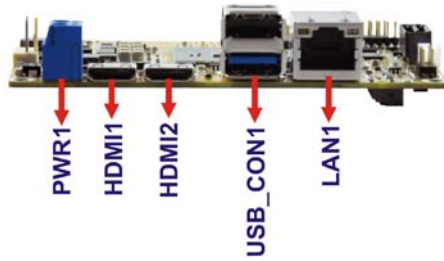

Figure 3-21: External Peripheral Interface Connector
Figure 3-21 shows the HYPER-BW-E8 external peripheral interface connector (EPIC) panel. The EPIC panel consists of the following:
- CN Location: See **Figure 3-21**
CN Location: See **Figure 3-21**